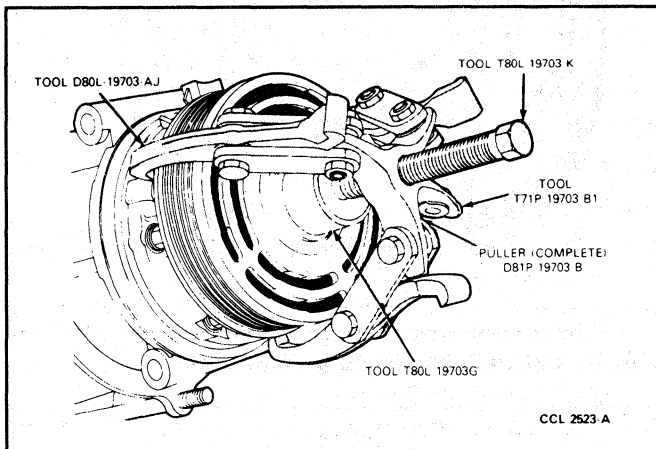

FIG. 6 Clutch Pulley—Removal
4. Pull pulley and bearing assembly from compressor. Use Compressor Shaft Protector T80L-19703-G and Complete Puller D81P-19703-B or equivalent (Fig. 6), if the pulley cannot be removed from compressor by hand.